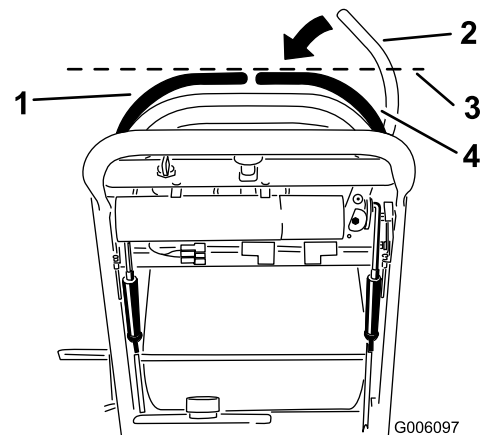

Figure 49
3. Push the right motion control lever down out of locked neutral position (Figure 49).
4. Check if it aligns horizontally with the left motion control lever (Figure 49).